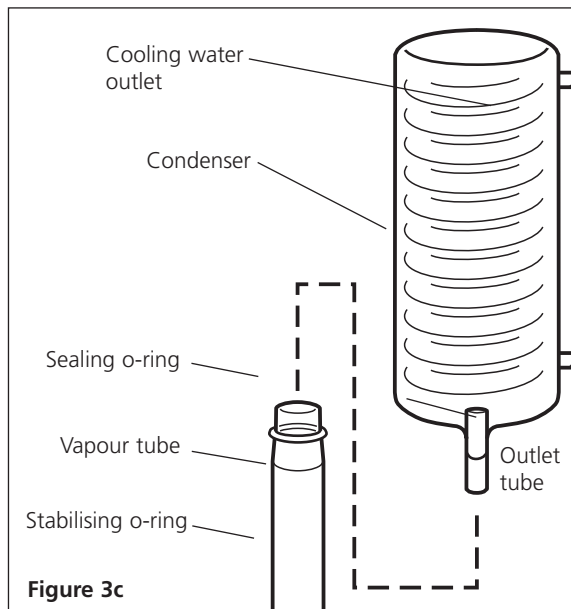

Figure 3c
- Ensure that the sealing o-ring and stabilising o-ring are correctly positioned, as shown in Figure 3c. Fit the condenser WC48/M2 by mounting it onto the vapour tube of the boiler. Ensure the distillate outlet tube of the condenser faces the front and the cooling outlet faces parallel to the unit.